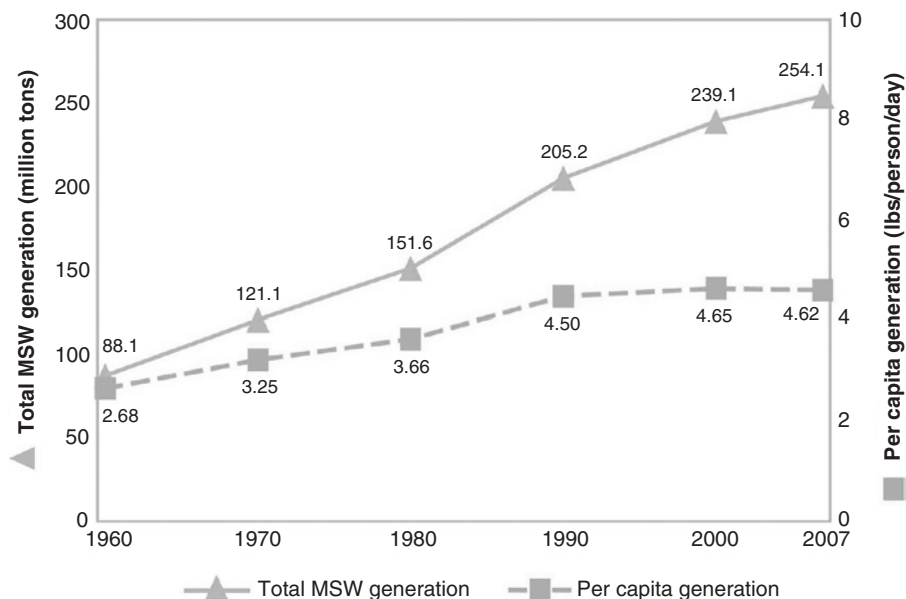

Figure 11.2
- Even if MSW had no other characteristic of concern, the quantity generated creates difficulties. The United States alone with its 100-million households generated 251 million tons (228 million tonnes) of MSW in 2006; of this, Americans recycled only 61 million tons (55.3 million tonnes) (excluding composting). Compare this to 1960, when America produced only 88 million tons (79.8 million tonnes) a year of MSW, about 35% of the 2006 amount.8 See Figure 11.2. Population increase is one part of the problem: in 1960, the average person generated only 2.7 pounds (1.2 kg) MSW a day as compared to 4.6 pounds (2.1 kg) in 2006. In earlier times most families lived in rural locations, and household waste was not a major problem. If every household today had to manage its own garbage, a crisis would quickly develop: a household of four creates 18.4 pounds per day (8.3 kg) or 6716 pounds (3046 kg) a year. And waste management – whether by incineration, landfilling, or recycling – is expensive. The amount American communities pay for waste management is second or third only to spending on education and police protection.